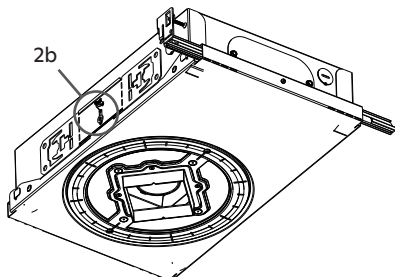

fig. 6
- b. Use the provided bolt to fasten the butterfly bracket (see fig. 6).